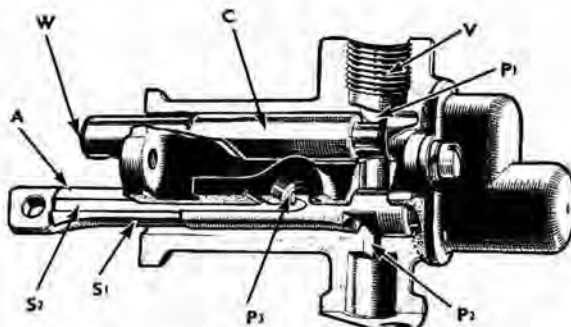

Fig. 2.—The constructional details of the cut-off valve are here clearly shown.
The cut-off valve (see Fig. 2) enables the automatic operation of the clutch to be dispensed with should it be so desired. It consists of a plunger (C) which is connected by a Bowden wire at W to a control button on the dashboard. When the plunger is pushed in, vacuum is permitted to pass through the passage (V) into the control valve. When the plunger is out, the port (P1) is closed, thus cutting off the vacuum and allowing air to pass to the back of the piston through a small hole in the end cover, past the end of the plunger, which is chamfered. The automatic clutch control is then inoperative.